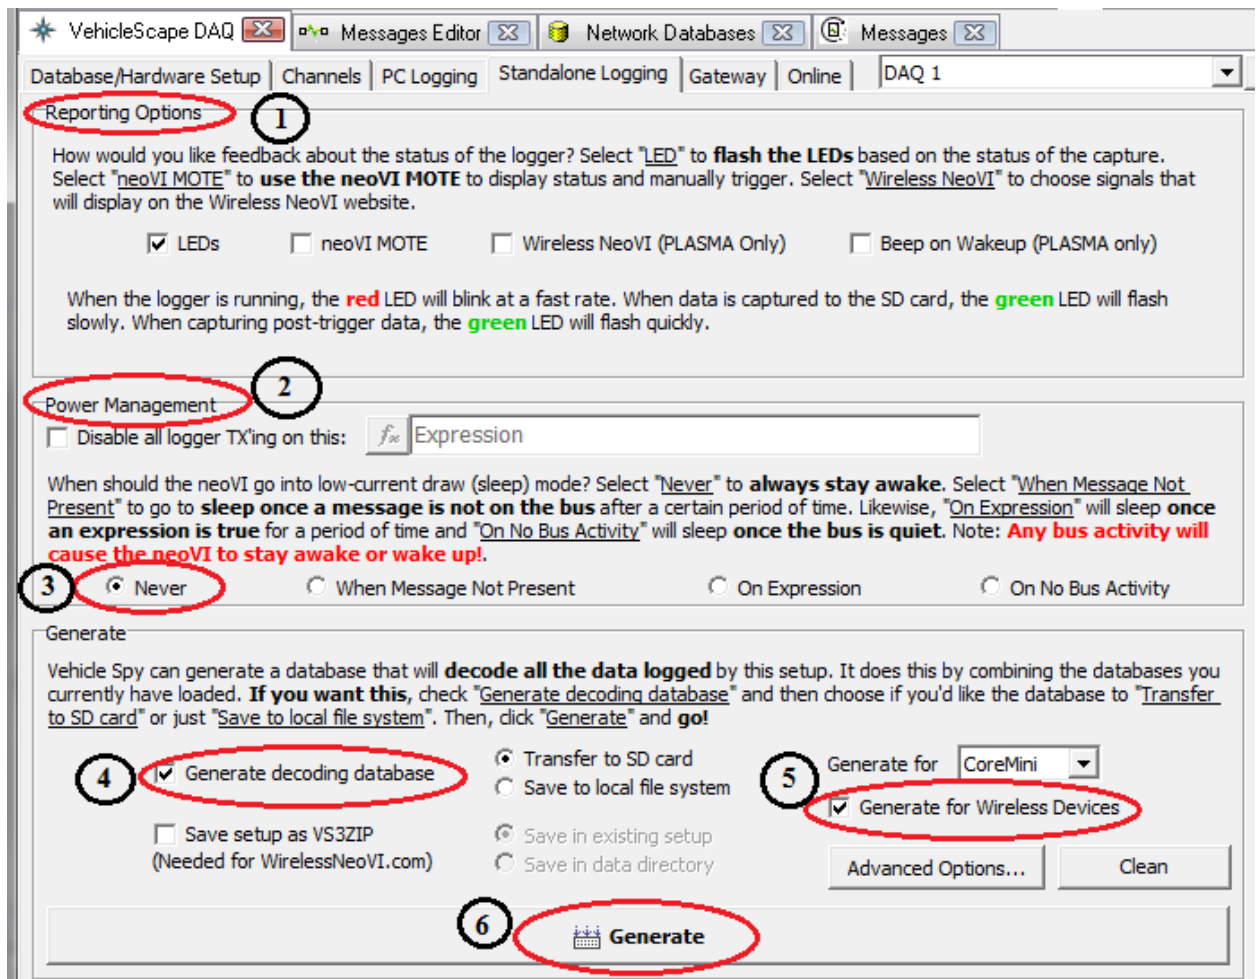

Figure 16.c: Configuration for Reporting and Generation
- Collection upload (Figure 16.b (9)): Check box of 3G and WiFi option as per availability or select both.
- Reporting option (Figure 16.c (1)): Check box of 'LED' option. It will give process status on LEDs of device. Also check box of 'Beep on wakeup (PLASMA only)' option. So it will give beep when device will wake up.
- Power management (Figure 16.c (2)): Select 'Never' option (Figure 16.c (3)). So it will never go in sleep mode.
- Generate (Figure 16.c (4)): Select 'Generate decoding database', 'Transfer to SD card' and check box of 'generate for wireless device' (Figure 16.c (5))